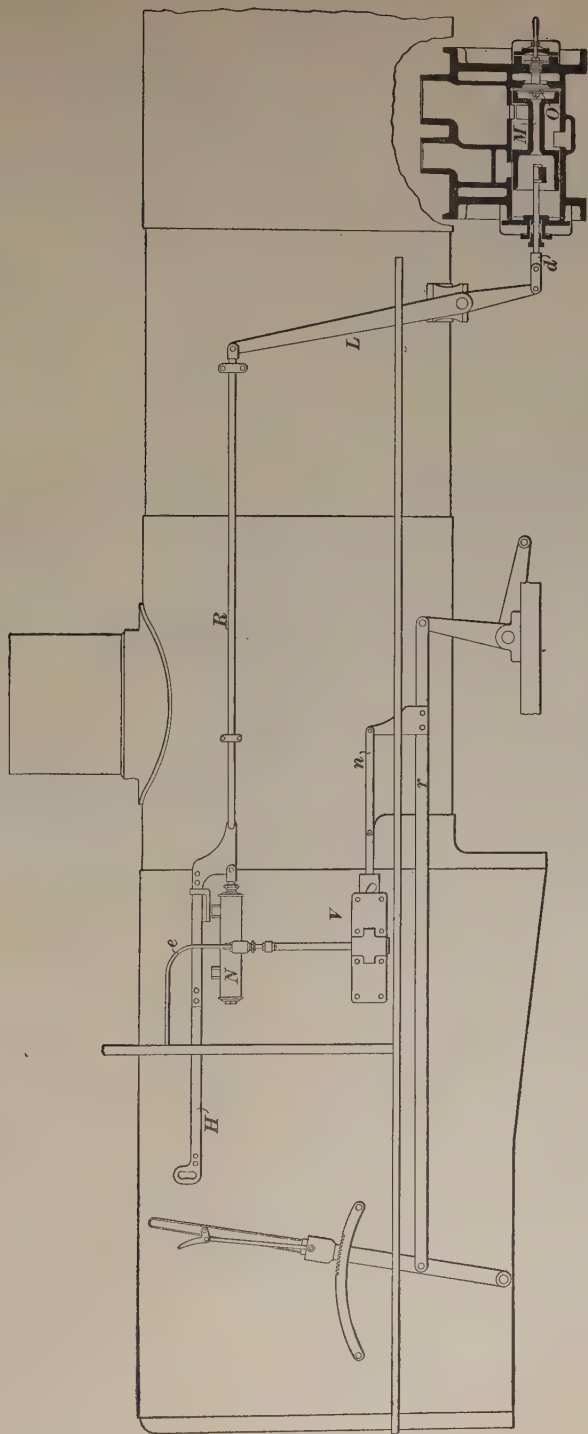

FIG. 27
53. Operation of Intercepting Valve.—The means used to operate the intercepting valve are shown in Fig. 27. The valve spindle *d* is connected, by means of the lever *L* and rod *R*, to a reversing mechanism *N*, called the **reversing cylinder**. The object of this mechanism is to relieve the engineer of the necessity of converting the engine from simple to compound, or vice versa, by hand. A hand arrangement *H*, however, is provided for use in case of accident to the reversing cylinder. The steam for operating the reversing cylinder is supplied through the pipe *e*, and the supply is controlled by a valve operated by means of the rod *n*. This rod is so connected to the reach rod *r* that it operates a reversing valve *V*, so as to admit steam into the reversing cylinder and convert the engine into a simple one if the reverse lever is placed in either corner, or into a compound if the reverse lever is hooked up one or more notches from the corner. A stop-cock is placed in the steam pipe, so that, when desirable, steam can be entirely cut off from the reversing cylinder. Sometimes the mechanism for operating the reversing-cylinder valve is connected to the reverse lever instead of to the reach rod, as described.
54. Reducing Valve.—The reducing valve *O* is shown open in Fig. 26, and closed in Fig. 27. It is provided with a ground-joint seat at *h*, Fig. 26, two packing rings *r*, and a springs *s*, the tension of which is adjusted by the nuts *n*. The tension of this spring should be only sufficient to prevent the valve rattling during the time the engine is running with steam off, and the valve should be easily moved by the hand against the action of the spring. The area of the valve *O* acted on by the steam in the chamber *x*, during the time that the engine is working simple, is so much greater than that acted on by the steam in chamber *c* that the valve is closed when the pressure in chamber *x* increases to a certain proportion (sometimes less than a half) of that in chamber *c*. In other words, the reducing valve maintains a pressure in chamber *x* something less than half that in chamber *c*, thereby equalizing the total forces acting on the high-pressure and low-pressure pistons.
55. Working Simple.—In this style of compound, the intercepting valve is wholly non-automatic, and it must be moved from the simple to the compound or from the compound to the simple position by means of the reversing cylinder *N* or the hand arrangement *H*, Fig. 27. So long as the reversing cylinder *N* is operative, the act of placing the reverse lever in either corner will cause the intercepting valve to be moved into the simple position (the handle *H* in its forward position); whereas, moving the reverse lever one or more notches from the corner causes the intercepting valve to be moved into compound position, the handle *H* then going to its backward position.
Sometimes, as, for instance, when switching, it is desirable to work the engine simple at different points of cut-off; that is, with the reverse lever in notches other than the corner notch. To accomplish this, first place the reverse lever in the corner, so that the intercepting valve will be moved into the simple position, and then close the stop-cock (not shown in Fig. 27) in the reversing-cylinder supply pipe *e*, so as to cut off the supply of steam to the reversing cylinder; the intercepting valve will then remain in the simple position, regardless of the position of the reverse lever. Opening the stop-cock in the supply pipe will again make the reversing cylinder operative.